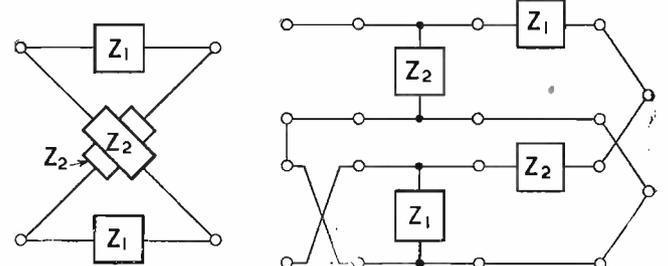
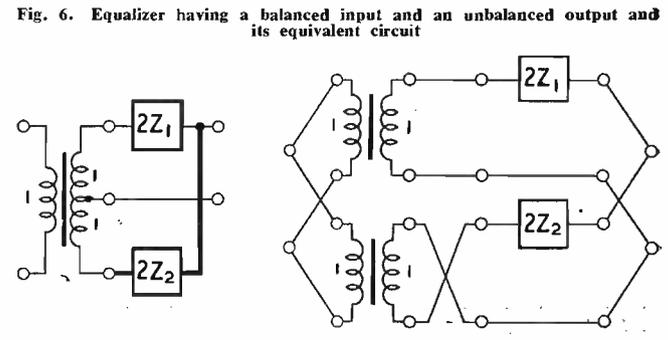

Fig. 5. Lattice network and its equivalent circuit
Fig. 6. Equalizer having a balanced input and an unbalanced output and its equivalent circuit
As a particular example of the solution of network problems by Matrix Algebra it is proposed to derive a simple form of constant resistance equalizer from the lattice network shown with its composite equivalent in Fig. 5.
The derived network and its composite equivalent are shown in Fig. 6.
The equivalent network of Fig. 5 consists of two subsidiary networks with their inputs in series and their outputs in parallel. For the upper network.
The equivalent network of Fig. 6 consists of two subsidiary networks with their inputs and outputs in parallel and, in this case, addition of the individual "Y" matrices gives the "Y" matrix of the system.
which is identical with equation (19). Hence the networks in Figs. 5 and 6 are exactly equivalent. The network of Fig. 6 may be useful as an equalizer where it terminates a balanced line and is itself connected to an unbalanced line amplifier or repeater.